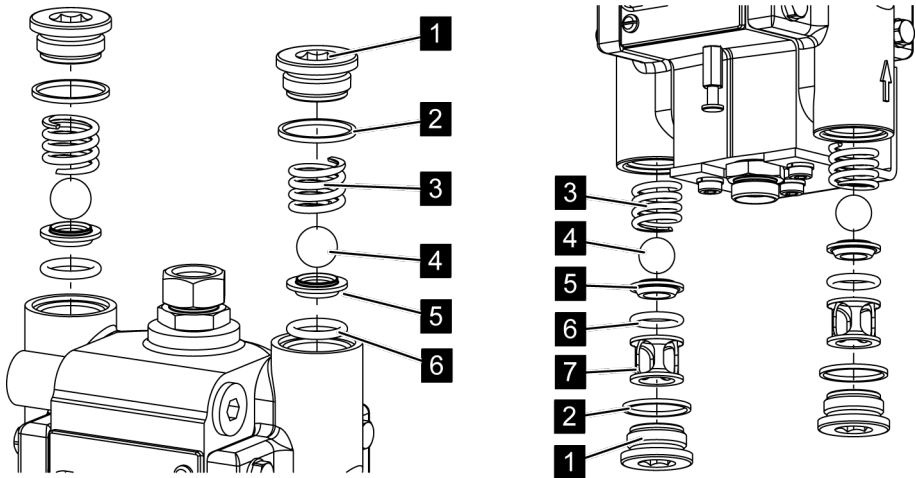

Fig. 8: Valve parts
- Carefully unscrew each screw plug (Fig. 8/1).
5. ➔ Remove the seal (Fig. 8/2), valve spring (Fig. 8/3), valve ball (Fig. 8/4), valve seat (Fig. 8/5), O-ring (Fig. 8/6) and, if applicable, spacer basket (Fig. 8/7).
8. ➔ Install the the O-ring (Fig. 8/6), valve seat (Fig. 8/5), valve ball (Fig. 8/4), valve spring (Fig. 8/3), seal (Fig. 8/2) and, if applicable, spacer basket (Fig. 8/7) in the order shown.
9. ➔ Screw the screw plug (Fig. 8/1) tight to 90 Nm.